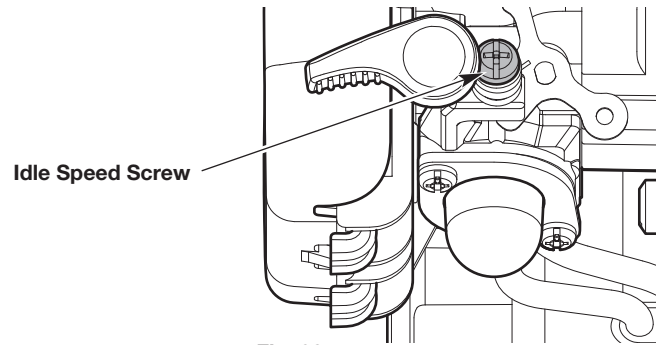

Fig. 28
- If the engine stops, increase the idle speed. Use a small Phillips screwdriver to turn the idle speed screw clockwise, 1/8 of a turn at a time, until the engine idles smoothly (Fig. 28).
- If the cutting head (or blade) spins when the engine idles, reduce the idle speed. Turn the idle speed screw counterclockwise, 1/8 of a turn at a time, until the cutting head (or blade) stops moving (Fig. 28).